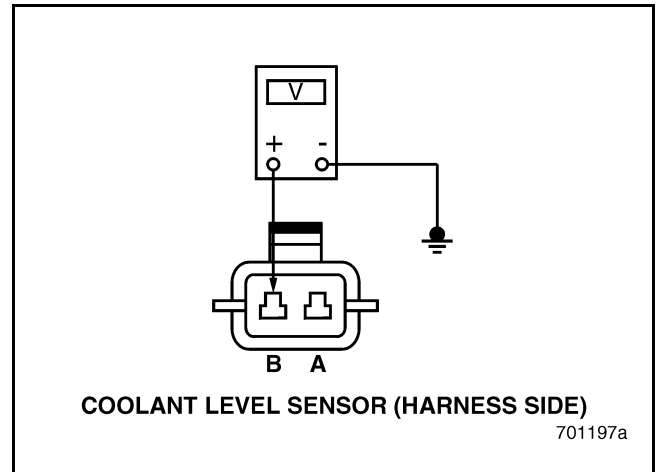

Figure 100
3. Measure the voltage between pin B on the harness side of the connector and a good ground (see Figure 100).